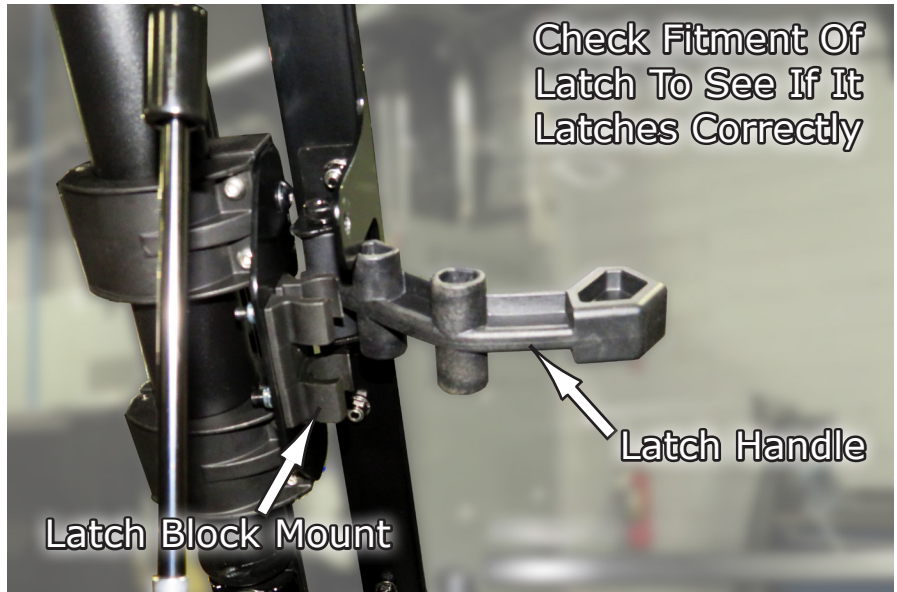

Fig.15
14. Once the three hinges are attached to the main windshield and bolts tightened, now look at the side Window Latches. Pull the windshield tight and see if you can lock the latch into position or not. If not, you can loosen the clamps to adjust so the Latch fits correctly into the Latch Block Mount. You will need to do both sides. Once they are both working correctly, then tighten clamps and any other items loosened for adjustment back down. See Fig.15.